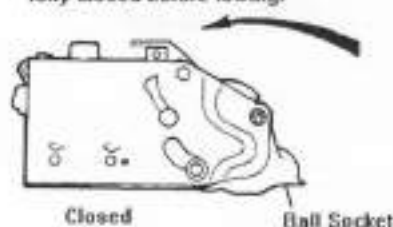

Figure P6: Surge Brake Actuator & Coupling Assembly
For boat models with the Surge Brake Actuator and Coupling Assembly shown in Figure P6, lift the release handle to unlock the coupler. The optional locking pin or a padlock may be inserted in the locking lever hole to secure the trailer. Refer to Section P-3 Operation for additional information on couplers and hitching to the tow vehicle.
2. Hold release handle in open position. See Figure P6.
2. Move the lever knob on the side of the actuator downward from the "Towing Position" along the curved slot in the actuator frame to the "Back-up Position". Refer to Figure P6. The slot has a notch at the bottom of its travel. Push the lever knob down to engage the locking notch.